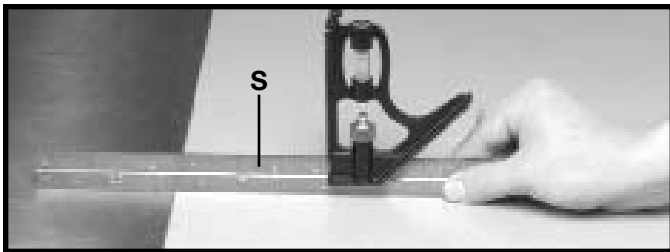
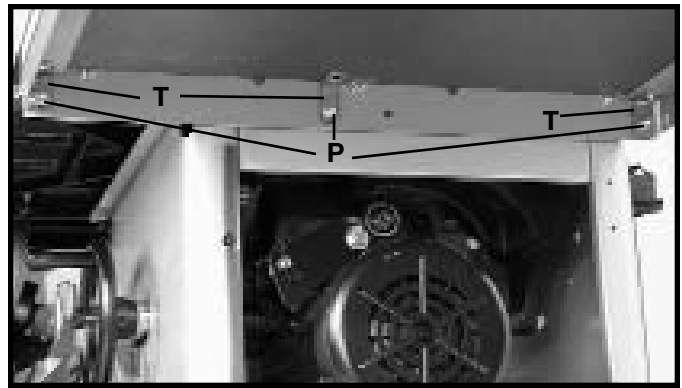

Fig. 15
Fig. 16
10. Using a straight edge (S) Fig. 15, make certain the Unifence table surface is level with the saw table by adjusting two leveling screws located on the bottom of table legs and adjusting angle brackets (T) Fig. 16, use a level, side to side and front to back to make sure the table is level. Then tighten three hex nuts (P).